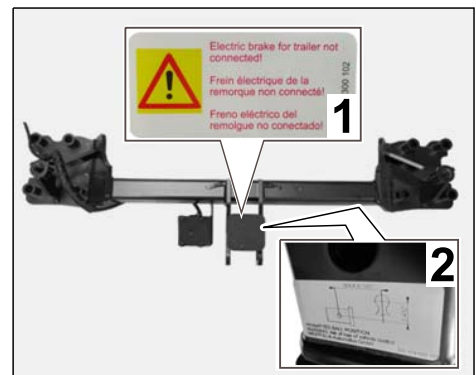

Figure 16
2.7.2 Affix sticker showing the warning "Electric Brake for Trailer not connected" on a clean surface at a clearly visible position next to the "Ball Position" sticker or the dashboard (⇒ *Figure 16*).